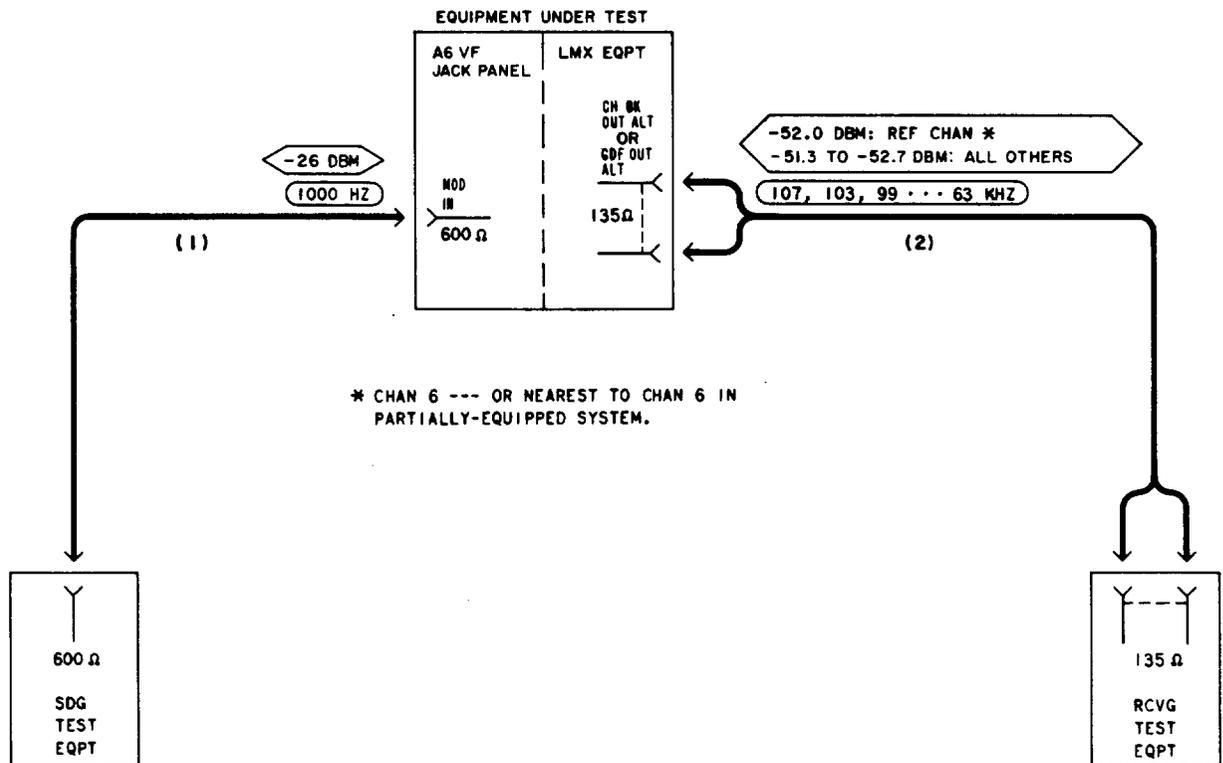

Fig. 3—Patching Diagram—Transmitting Level Adjustment
- 3 Connect the STE to the MOD IN jack for the channel selected in Step 1 [patch (1), Fig. 3].
- 4 At the LMX equipment, connect the RTE to the CH BK OUT ALT (LMX-2) or GDF OUT ALT (LMX-3) jack [patch (2), Fig. 3].
- 8 Remove patch (1), Fig. 3.
- 10 Connect the STE to the MOD IN jack for the channel selected in Step 9 [patch (1), Fig. 3].
- 13 Remove patch (1), Fig. 3.
15	At the LMX equipment, remove patch (2), Fig. 3.